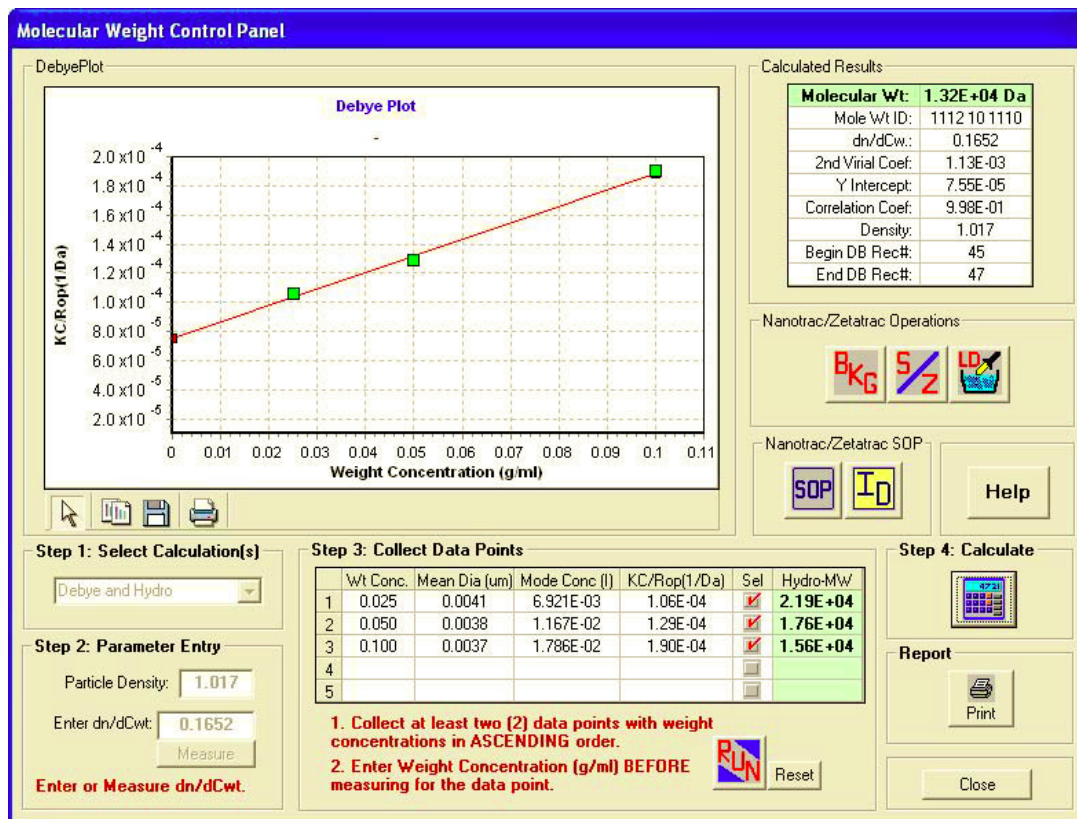

Fig. 10: Debye plot
- Molecular weight AND dn/dc result from one single Debye plot analysis – see Fig. 10